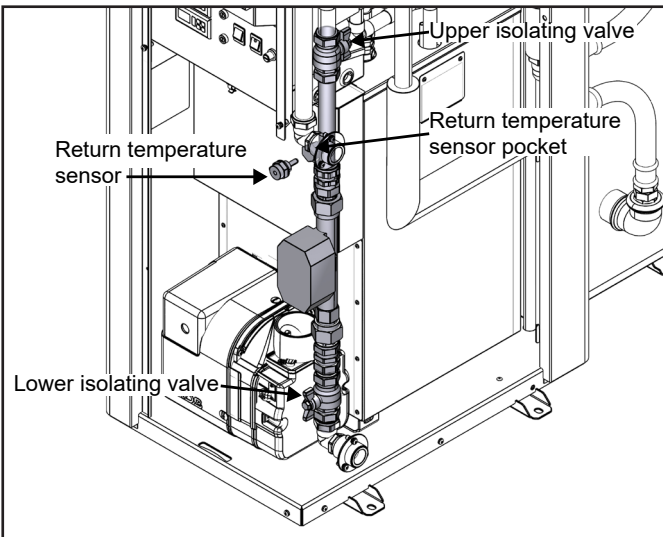

Figure 7-12: Flow meter fitted
6. Using the two fibre washers (provided with the flow meter), fit the flowmeter between the joint faces of the upper and lower tails and tighten the union nuts. Refer to Figure 7-12.
1. Locate the return temperature sensor point on the return pipe above the flow meter. Refer to Figure 7-12.